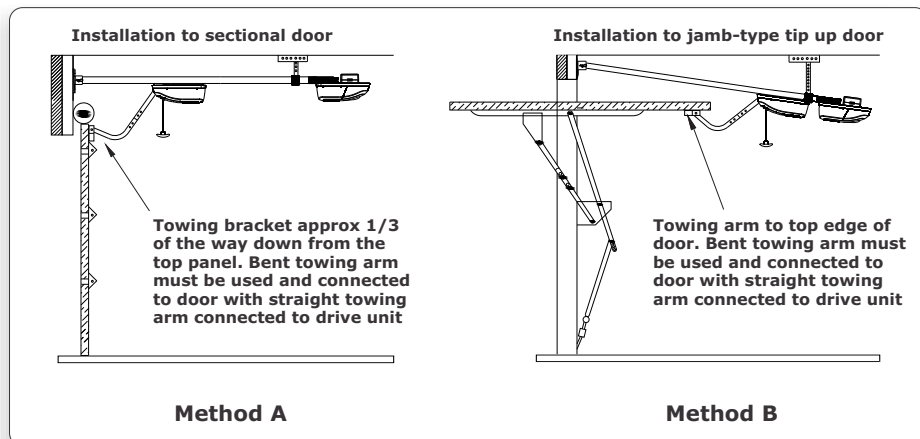
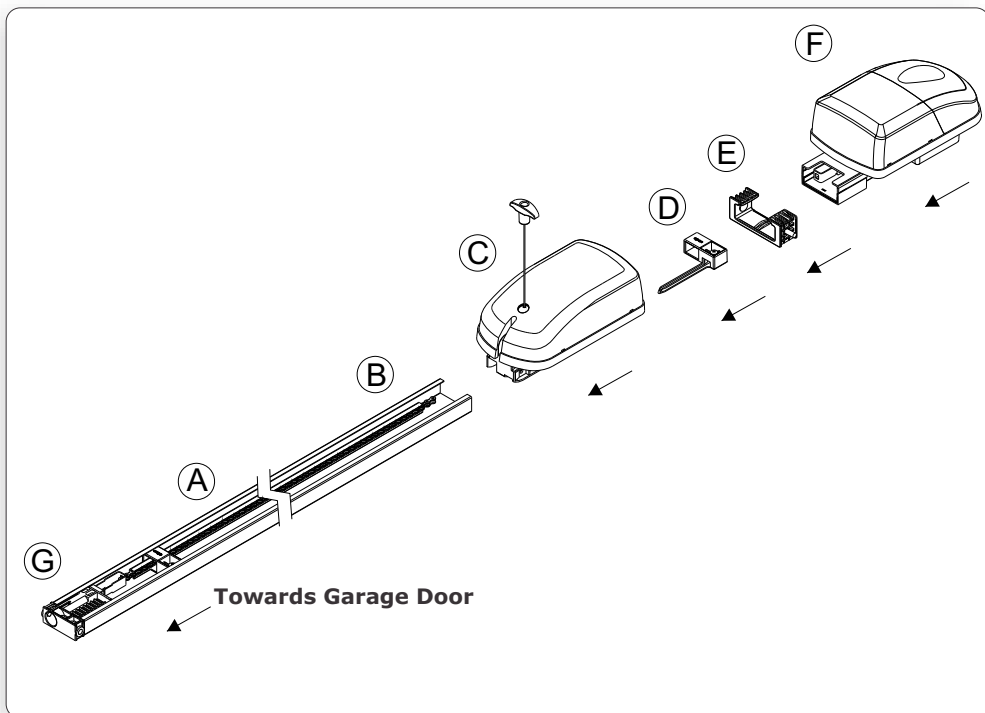
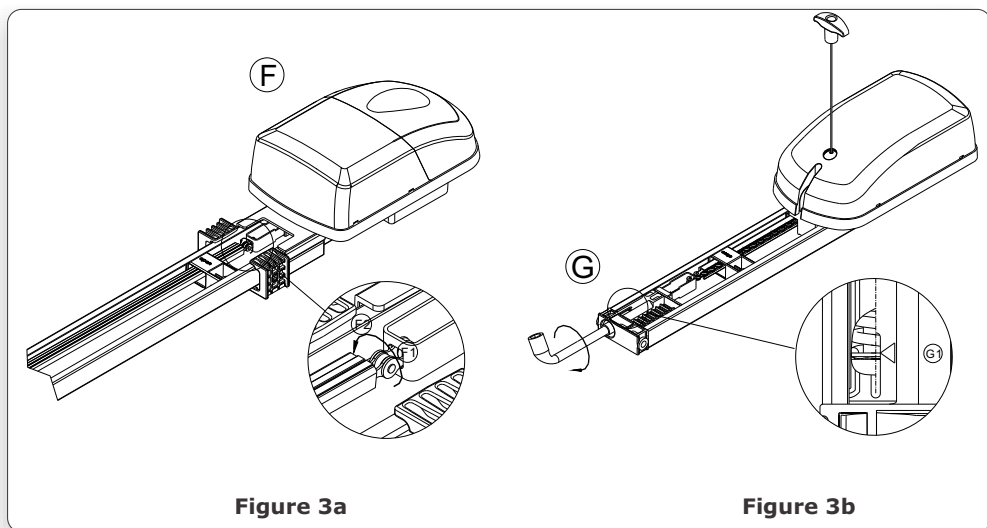

FIGURE 1.
FIGURE 2. SECTIONAL UNIT ASSEMBLY DEPICTED
FIGURE 3. Tensioning of the chain
- Open the packing carton and expose the **XTrac** components as depicted in Figure.2
- Orientate the Drive Rail (Figure.2-A) so that the Terminal Bracket (Figure.3-G) faces towards the garage door
- Locate the Drive Unit (Figure.2-C) and slide it into the Drive Rail and at the same time insert the Drive Chain (Figure.1-B) into the Drive Unit. Slide the Drive Unit at least 500mm in from the end of the Drive Rail
- Locate the Close Limit Prong (Figure.2-D) and slide it into the Drive Rail
- Locate the Drive Rail Hanger (Figure.2-E) and slide it around the outside of the Drive Rail. Make sure that the M8 dome head mounting bolts have been fitted to the Drive Rail Hanger
- Insert the Control Box (Figure.3-F) into the Drive Rail